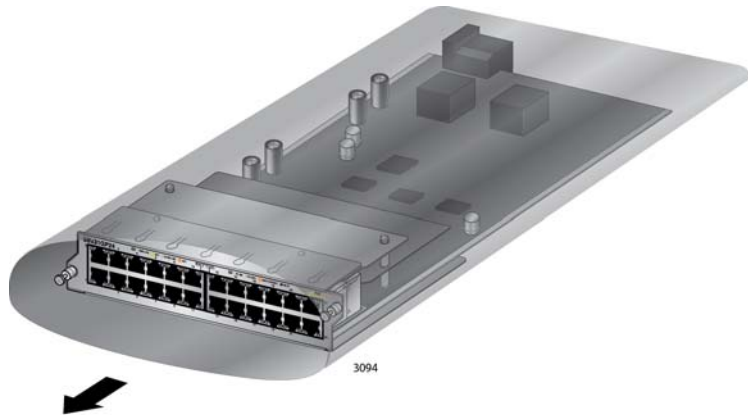

Figure 74. Removing an Ethernet Line Card from the Anti-static Bag
3. Carefully remove the Ethernet line card from the anti-static bag. Refer to Figure 74.